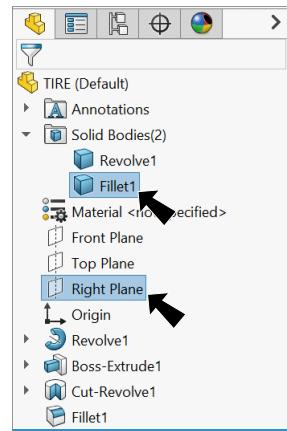

Fig. 30
Step 1. Expand Solid Bodies  folder in the Feature Manager. **Ctrl click** **Fillet1**  **body** and **Right Plane**  to select Body and Plane, Fig. 30.